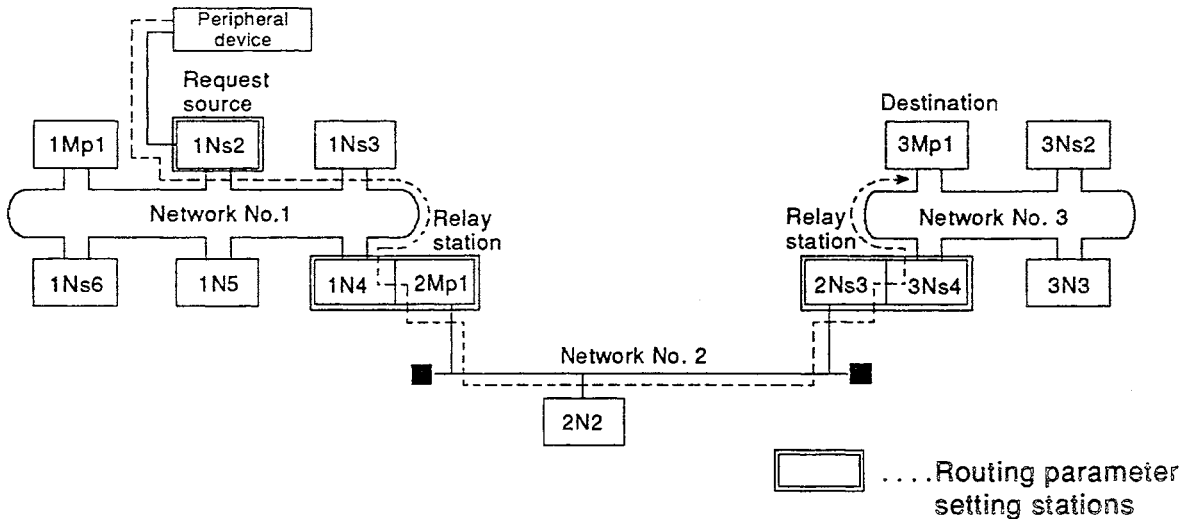

Fig. 8.6 Transient Transmission Across Networks
(2) Fig. 8.6 shows transient transmission is executed from 1Ns2 in network number 1 to 3Mp1 in network number 3.